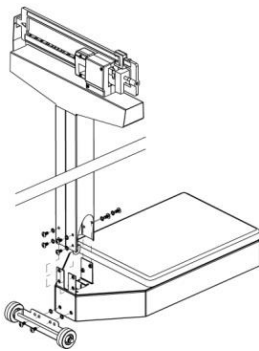

Fig.1
- a. Fix the column to the base using the 4 screws & washers in back and 2 screws & washers in front supplied. Fix the wheels assembly to the base using the 2 screws & washers. (See Fig. 1)